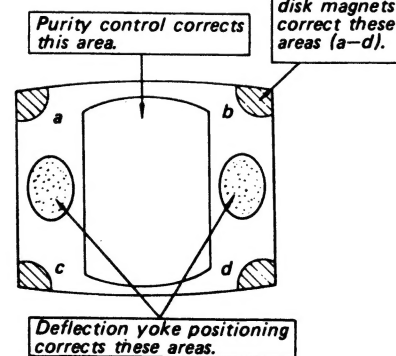

Fig. 3-4
11. Check if mislanding appears at corners a-d as shown in Fig. 3-4. If mislanding is observed, correct it as shown in Fig. 3-4.